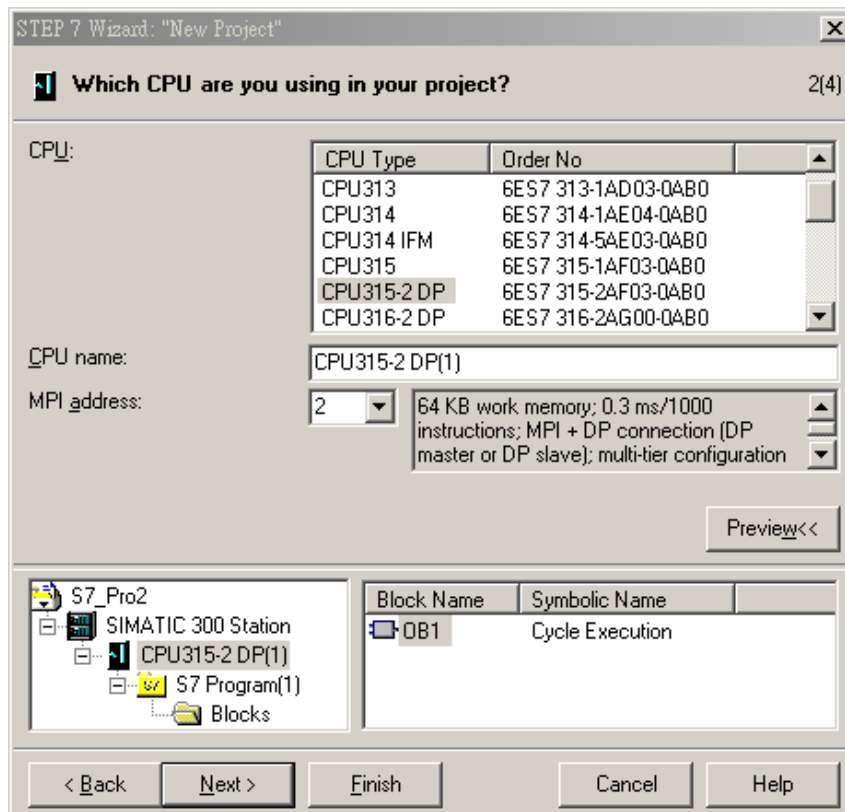

Figure 7-5
4. Select "CPU315-2 DP" for CPU as we are using the S7-300 model. Click "Next". See Figure 7-5.